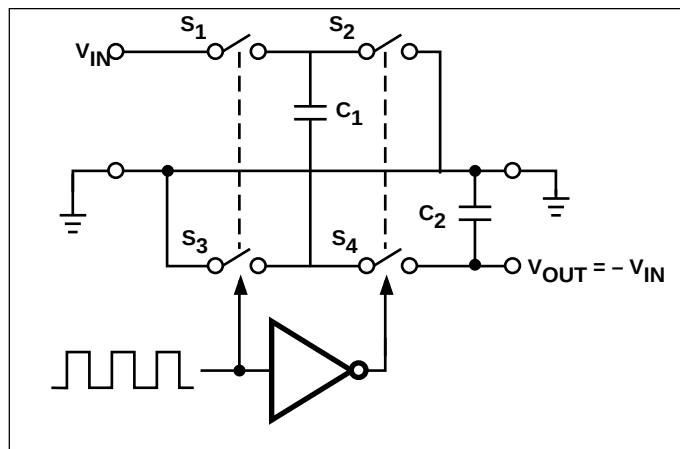
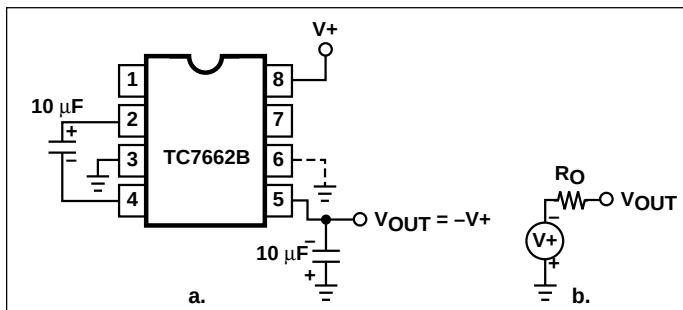
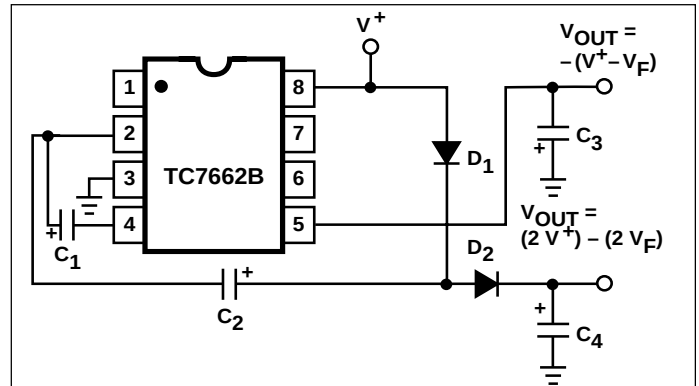

Figure 2. Idealized Negative Voltage Capacitor
Figure 3. Simple Negative Converter and its Output Equivalent
Figure 10. Combined Negative Converter and Positive Doubler
ELECTRICAL CHARACTERISTICS: $V^+ = 5V$, $T_A = +25^\circ C$, OSC = Free running, Test Circuit Figure 2, Unless Otherwise Specified.
The TC7662B contains all the necessary circuitry to complete a negative voltage converter, with the exception of two external capacitors which may be inexpensive 1μF polarized electrolytic types. The mode of operation of the device may be best understood by considering Figure 2, which shows an idealized negative voltage converter. Capacitor C_1 is charged to a voltage V^+ for the half cycle when switches S_1 and S_3 are closed. (Note: Switches S_2 and S_4 are open during this half cycle.) During the second half cycle of operation, switches S_2 and S_4 are closed, with S_1 and S_3 open, thereby shifting capacitor C_1 negatively by V^+ volts. Charge is then transferred from C_1 to C_2 such that the voltage on C_2 is exactly V^+ , assuming ideal switches and no load on C_2 . The TC7662B approaches this ideal situation more closely than existing non-mechanical circuits.
In the TC7662B, the four switches of Figure 2 are MOS power switches; S_1 is a P-channel device and S_2 , S_3 and S_4 are N-channel devices. The main difficulty with this approach is that in integrating the switches, the substrates of S_3 and S_4 must always remain reverse biased with respect to their sources, but not so much as to degrade their "ON" resistances. In addition, at circuit start up, and under output short circuit conditions ($V_{OUT} = V^+$), the output voltage must be sensed and the substrate bias adjusted accordingly. Failure to accomplish this would result in high power losses and probable device latchup.
where V_1 and V_2 are the voltages on C_1 during the pump and transfer cycles. If the impedances of C_1 and C_2 are relatively high at the pump frequency (refer to Figure 2) compared to the value of R_L , there will be a substantial difference in voltages V_1 and V_2 . Therefore, it is desirable not only to make C_2 as large as possible to eliminate output voltage ripple, but also to employ a correspondingly large value for C_1 in order to achieve maximum efficiency of operation.
The majority of applications will undoubtedly utilize the TC7662B for generation of negative supply voltages. Figure 3 shows typical connections to provide a negative supply where a positive supply of +1.5V to +15V is available. Keep in mind that pin 6 (LV) is tied to the supply negative (GND) for supply voltages below 3.5 volts.
The output characteristics of the circuit in Figure 3 can be approximated by an ideal voltage source in series with a resistance as shown in Figure 3b. The voltage source has a value of $-(V+)$. The output impedance (R_O) is a function of the ON resistance of the internal MOS switches (shown in Figure 2), the switching frequency, the value of C_1 and C_2 , and the ESR (equivalent series resistance) of C_1 and C_2 . A good first order approximation for R_O is:
Figure 10 combines the functions shown in Figures 3 and 9 to provide negative voltage conversion and positive voltage doubling simultaneously. This approach would be, for example, suitable for generating +9V and -5V from an existing +5V supply. In this instance, capacitors C_1 and C_3 perform the pump and reservoir functions, respectively, for the generation of the negative voltage, while capacitors C_2 and C_4 are pump and reservoir, respectively, for the doubled positive voltage. There is a penalty in this configuration which combines both functions, however, in that the source impedances of the generated supplies will be somewhat higher due to the finite impedance of the common charge pump driver at pin 2 of the device.